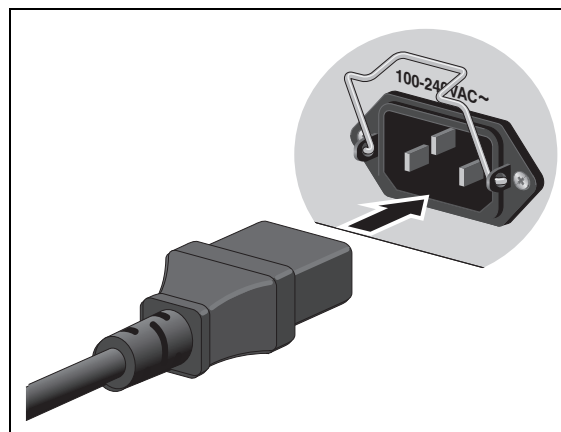

Figure 75. Connecting the AC Power Cord
2. Plug the power cord into the AC power connector on the rear panel of the unit, as shown in Figure 75. Lower the power cord retaining clip to secure the power cord to the unit.